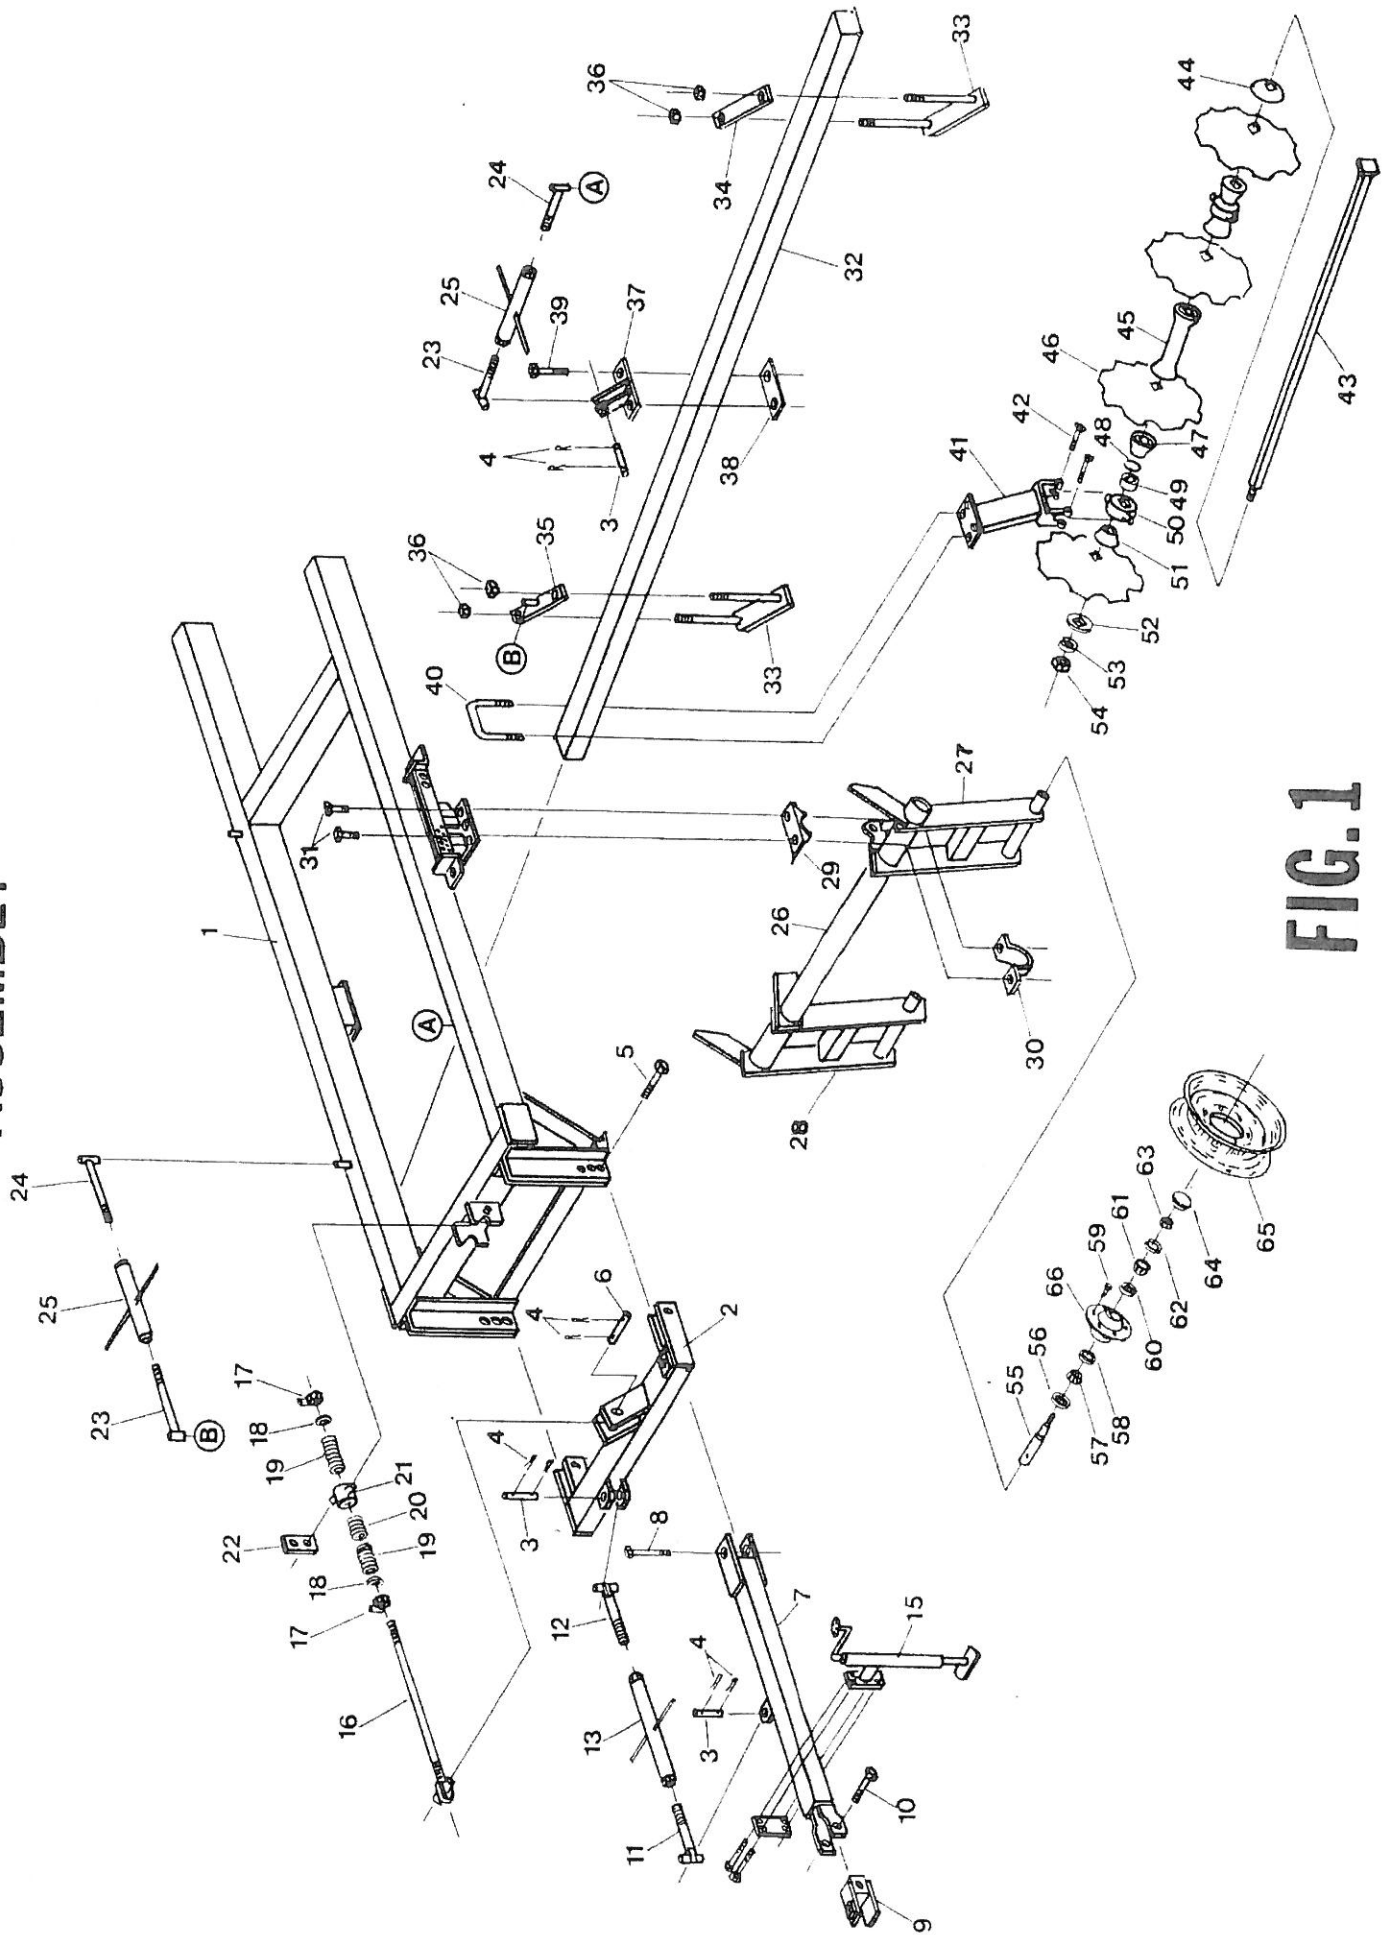
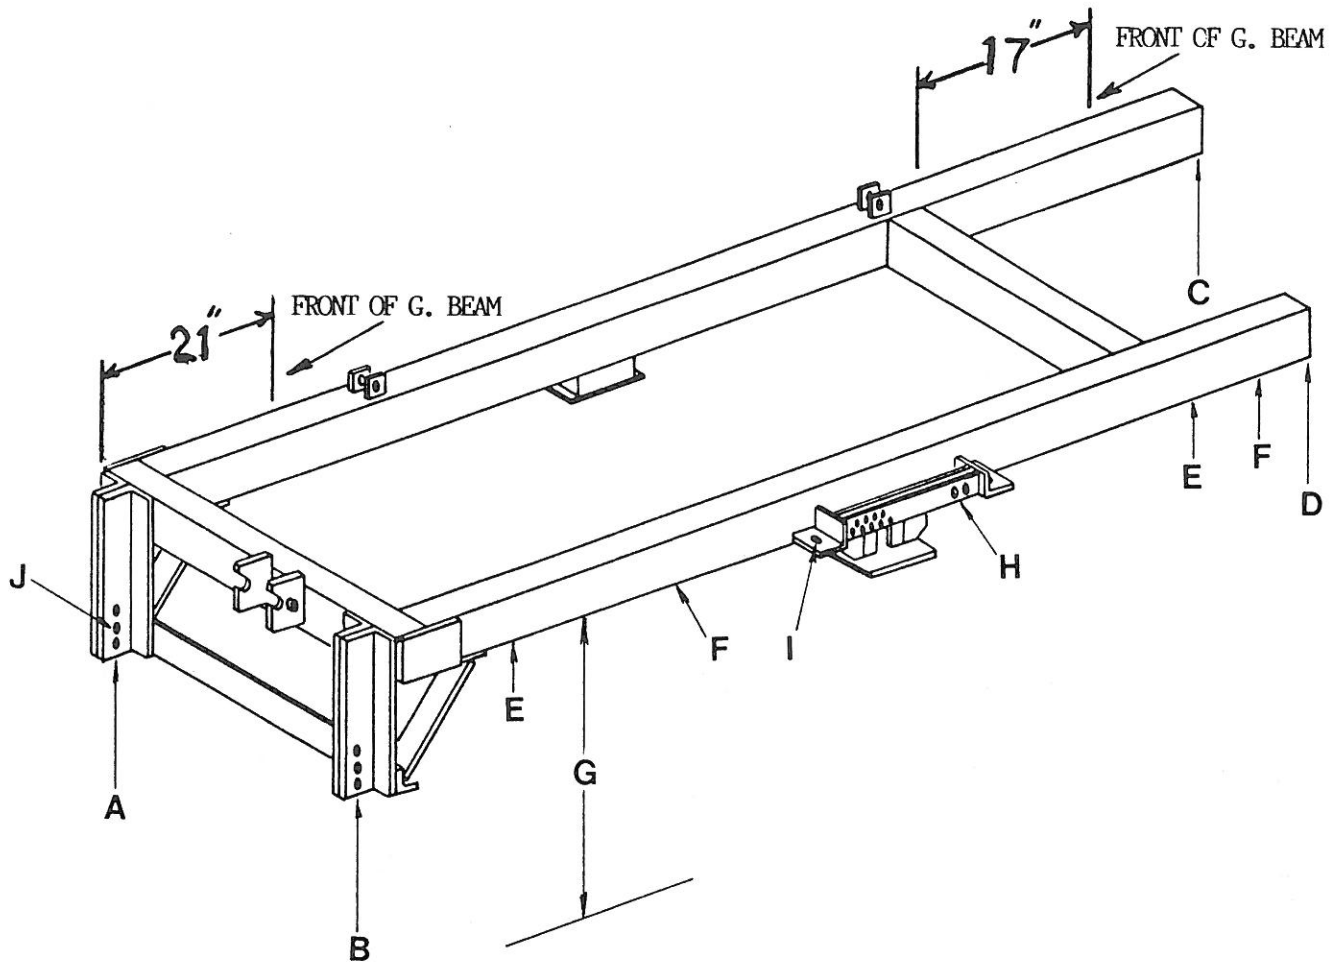

FIG. 1
FIG. 2
2. Support the main frame on solid supports at A, B, C, and D, Fig. 2, to a height that will allow the gangs to be moved underneath the gang beams for mounting.
3. Place the gang beams, Ref 32, Fig. 1, underneath the frame between the stop lugs that are welded at the front and rear of the left side member. Locate the right end of the front gang beam approximately 21" behind the front cross member of the main frame and the rear gang beam 17" behind the rear cross member as shown in Fig. 2. This will provide about an 18 gang angle.
4. Clamp both front and rear gang beams loosely under the frame using the bottom clamps, Ref. 33, Fig. 1, and the top clamp plates, Ref. 35, Fig. 1, with the turnbuckle anchor stud welded on for the right hand side of the harrow. The plain top clamp, Ref. 34, is for the left hand side.
2. Screw the front and rear lateral turnbuckles, Ref. 25, Fig. 1, out about 2 1/2" on each end and attach one end to the main frame as shown in Fig. 1. Mount the turnbuckle anchor clamp, Ref. 37, Fig. 1, to the gang beam and to the other end of the turnbuckle and tighten securely to both.
1. Refer to Fig. 7 and 8. Position the entire wheel carriage, Fig. 7, under the main frame with the wheel legs extending to the rear and the depth control arms, L & R, Fig. 7, inserted into the depth control quadrants, Ref. H, Fig. 2. Before lifting the wheel carriage up to the frame install the wheel carriage bearing sets, Ref. 29 & 30, Fig. 1, and loosely tie together with very light wire.
1. Select the hole position in the main frame front hitch angle, Ref. J, Fig. 2, that will best suit your tractor and operating adjustment needs.
Block harrow's wheels to prevent rolling in either direction and have everyone clear of the machine. Activate the cylinder and raise the harrow to transport position. The harrow will balance on the wheels and hitch easily. Insert the transport pins in front of the depth control arm in hole H, Fig. 2. Use hole I for storage.